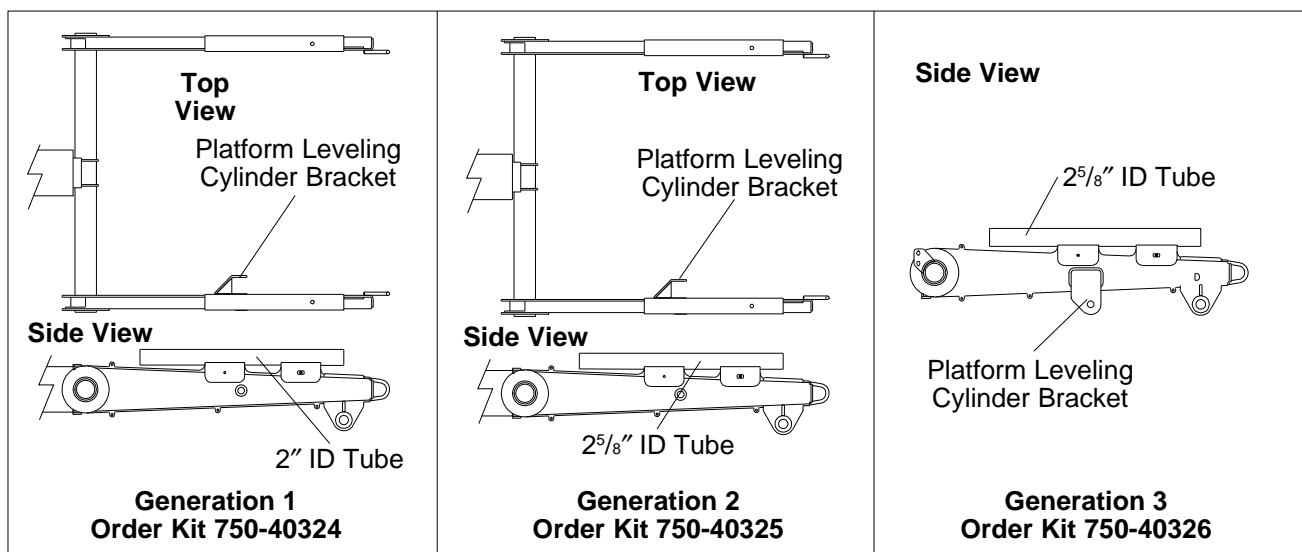

**Figure 3 — Inspecting the Welds**
5.Inspect where the cross tube and the arms are welded (refer to Figure 3).